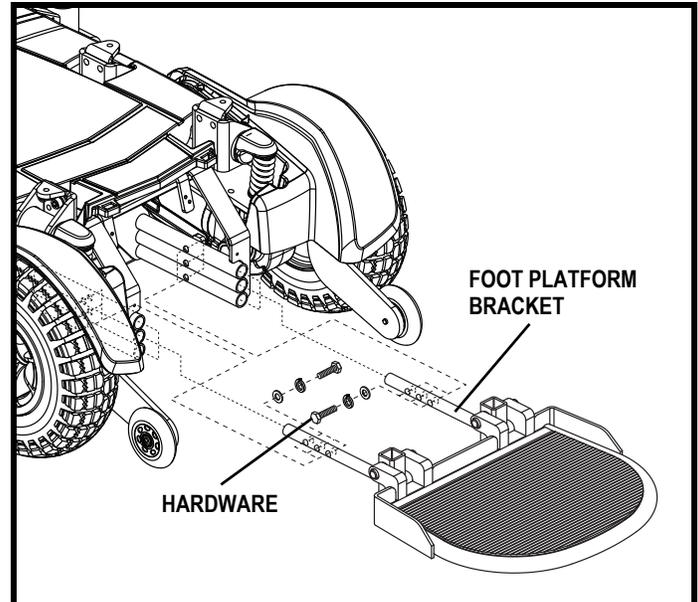

Figure 15. Foot Platform Adjustment
1. Remove the hardware from the foot platform bracket. See **figure 15**.
1. Remove the hardware from the foot platform bracket. See figure 15.
1. Flip up the foot platform and locate the screw. See figure 15.